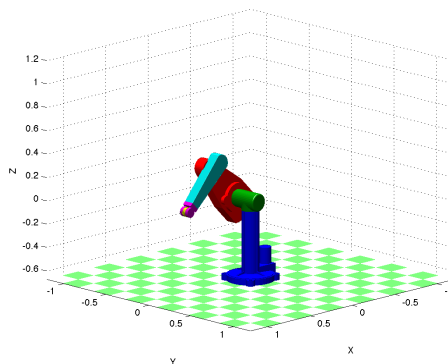

Figure 1.1: New rendered robot model using the `plot3d()` method.
- A new method `plot3d()` which uses STL format solid models to render realistic looking robots as shown in Figure 1.1. This requires STL models, such as those shipped with the package ARTE by Arturo Gil (<https://arvc.umh.es/arte>).